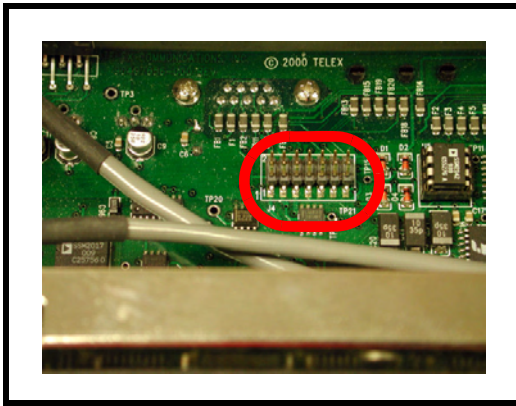

Figure 4. The J4 connector on the KP-32 board.
10. Gently secure the board in place (see Figure 4.).